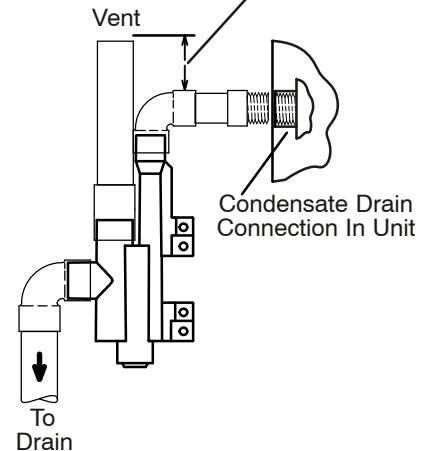

FIGURE 45
- 3 - Install the cap over the clean out opening at the base of the trap. See figure 45.
- 4 - Install drain trap using appropriate PVC fittings, glue all joints. Glue the provided drain trap as shown in figure 45. Route the condensate line to an open drain.